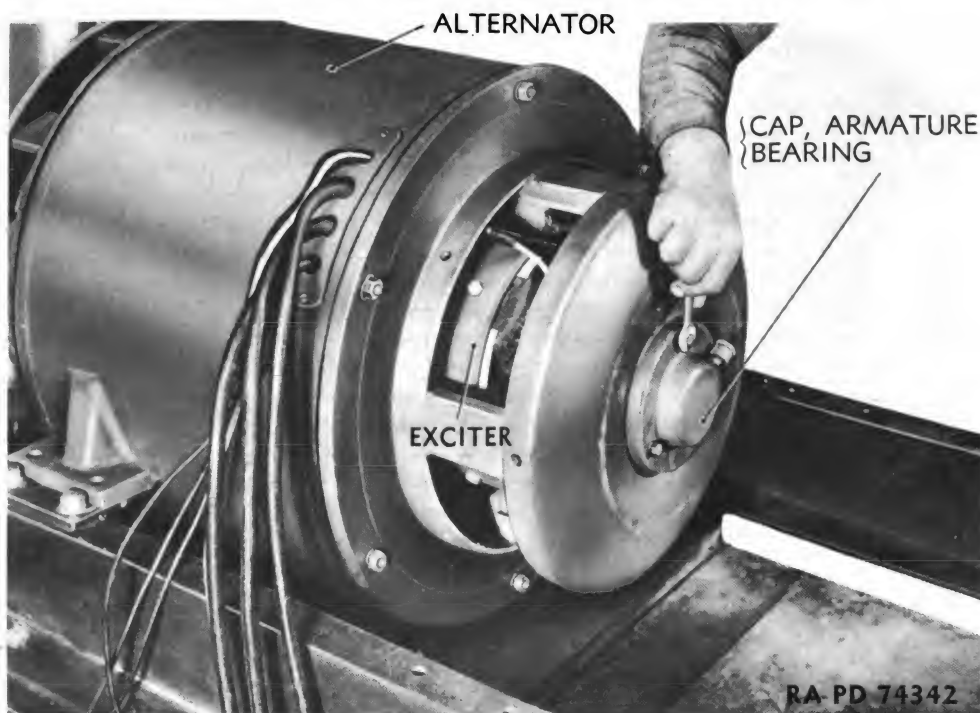

Figure 188 — Armature Bearing Cap Removal
(2) Take out three cap screws, and remove armature bearing cap and gasket (fig. 188).